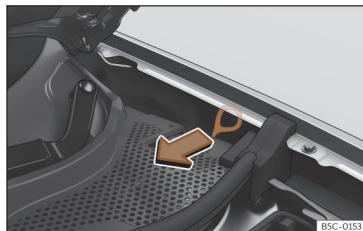

Fig. 66 Between the left wing panel and the engine bonnet hinge: Charging connector manual release mechanism puller.
The puller for the manual release mechanism is on the left hand side of the engine compartment, above the charging socket >>> **Fig. 66.**
- Pull the puller >>> **Fig. 66.**